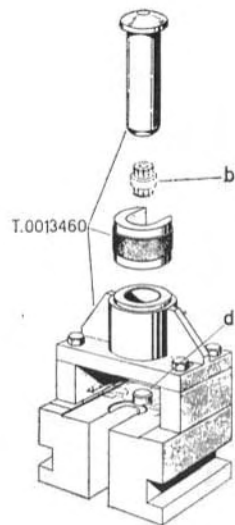

Fig. 105 - Re-assembling the crankshaft (1st operation).
3. - Press the new crankpin « a » into the crankweb « d » clutch side, by means of jig T.0013460 (see Fig. 105).